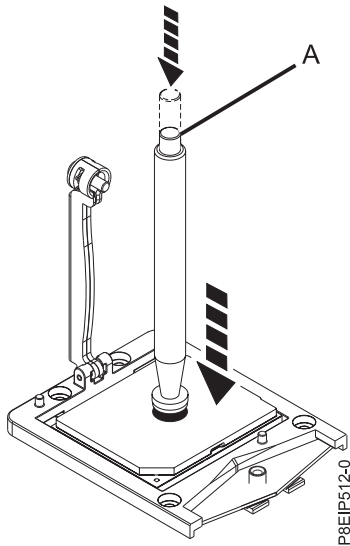

Figure 53. Lowering the removal tool onto the system processor module
7. Lower the vacuum pen tool onto the system processor module to install. Fully press the top of the pen (A) and hold the pen in the center of the system processor module as shown in Figure 53. Release the top of the pen to fasten the pen onto the system processor module.